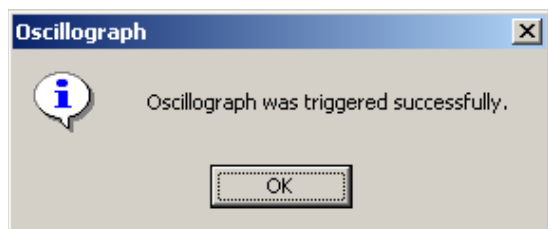

Figure 2-15 Oscilloscope Successfully Triggered Dialog Screen
2. Select **Yes**, IPScom will display the Oscilloscope Successfully Triggered Dialog Screen.(Figure 2-15)